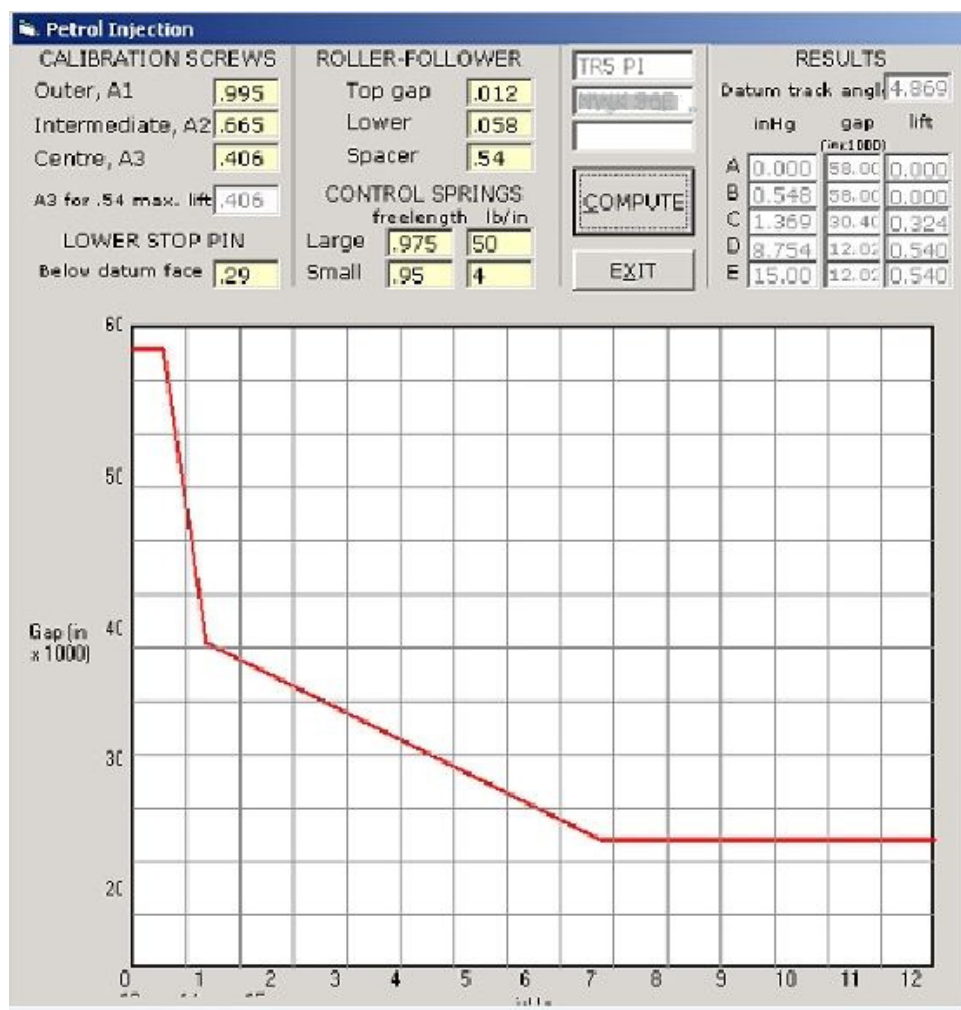

Figure 1 Screen shot of typical Metering Unit fuelling graph
- ii. Some means of knowing what the metering unit is doing and how to adjust it for correct metering. We have a computer modeling program (see figure1) that enables us to feed in all variables measured from the metering unit, spring rates, stop positions, and cam angles. The model can then determine what fuel will be delivered for a given vacuum. From this we can adjust the Metering Unit for correct operation.